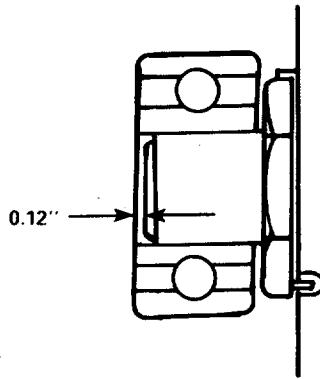

FIGURE 4-26. Pilot Bearing (PTO/SP-214).
- l. Install a driving plate (6) onto the hub and back plate (5). Install the center plate (7) onto the first driving plate (6). Install the second driving plate (8). Install the floating plate (43) upon the second driving plate (8).
- m. Install the adjusting lock pin spring (42) into the bore provided in the floating plate (43). Install the adjusting lock pin (41) and de-press the pin (41) and spring (42) with a screwdriver while installing the adjusting ring (40). Screw ring about halfway down hub thread.
- n. Install the four levers (13) and eight lever links (14) to the lugs on the sliding sleeve (16) with eight headed pins (39) and eight cotter pins (15). Spread the pins (15) so their ends do not exceed a 0.47 inch radius for operating clearance.
- o. Install the collar halves (36) and two shims (17) to the flange provided on the sliding sleeve (16). Retain the collar (36) to the sleeve (16) with two hexhead 3/8 - 24 x 2-1/4 capscrews (19) and two hex-nuts (37). Tighten the hex nuts (37) to a 30 ft-lb. torque.
- p. Install the levers (13), sliding sleeve (16), and collar (36), as an assembly, onto the adjusting ring (40) and floating plate (43). Retain the levers (13) to the floating plate (43) with eight spring washers (11) (one on each side of each lever), four headed pins (10), and four cotter pins (12). Spread the ends of the cotter pins (12).
- q. Install the hose assembly (21). Install the hose fitting (20) into the split collar (36). Install the hose (21) into the fitting (20). Install the hydraulic (grease) fitting (33) into the hose fitting (25).
- r. Set the clutch housing (32) with attached parts on the bench with the clutch end facing up and support firmly with wooden blocks.
- s. Lower the clutch assembly (9) over the clutch shaft (54) and into the clutch housing (32), engaging the trunnions on the split collar (36) with the throwout yoke (44). Align the shaft keyway with the keyway in the hub and back plate (5). Install the key (59).
- t. Install the hub nut lockwasher (4) onto the clutch shaft (54), indexing its lower tab in the drilling provided on the hub and back plate (5). Install the hub nut (3). Tighten the hub nut (3) to 30 ft-lb. torque to seat tapers and remove clearance, then tighten the nut an additional one-half turn. Bend the lockwasher (4) against a flat on the nut (3).
- u. Route the hose assembly (21) free of moving parts and push the fitting (25) through the hole provided in the clutch housing (32). Install the lockwasher (35), and the jam nut (34) to retain the fitting (25) in the housing (32).
- v. Tap or press the pilot bearing (2) on the clutch shaft (54). Solidly support the output end of the clutch shaft (54) during installation of the pilot bearing (2). Also, apply the force to the inner race of the pilot bearing (2) during installation. Don't press the pilot bearing (2) all the way onto the shaft (54). Leave a distance of 0.12 inch between the front face of the bearing (2) inner race and the end of the clutch shaft (54). (See FIGURE 4-26)